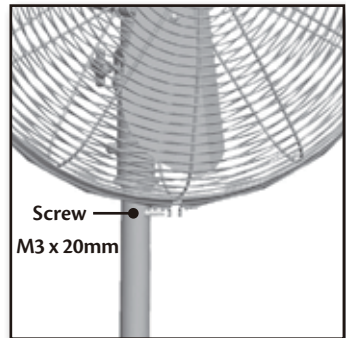

Figure 18
10. Tighten the screw to secure the grill ring over both the front and rear grill. Figure 18.